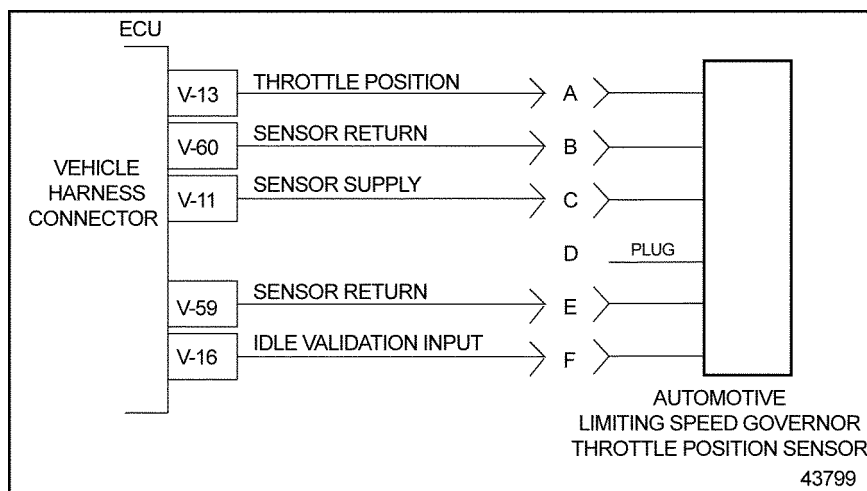

Figure 27-2 Throttle Position Sensor
3. Install a jumper wire between sockets A and V-13, C and V-11. See Figure 27-2.